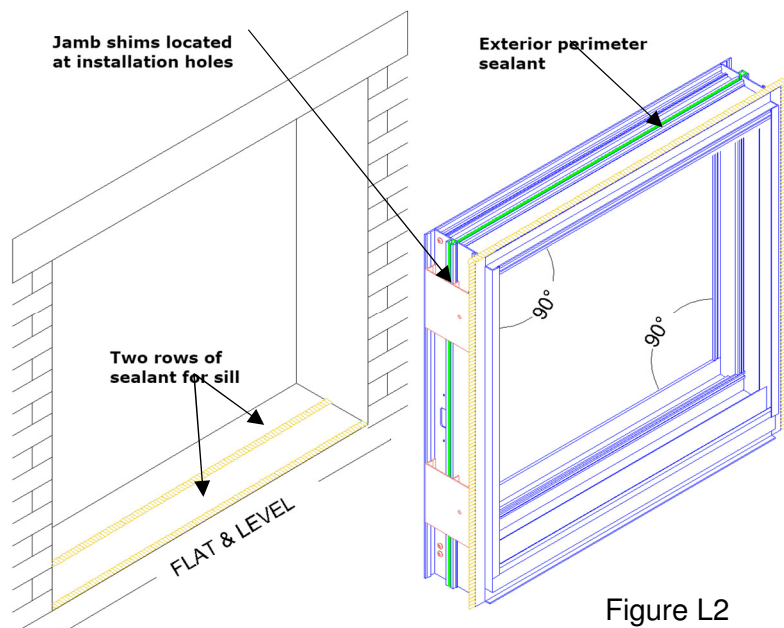

Figure L2
- A. Install the door in accordance with the shop drawings. It is recommended to use at least two rows of sealant at the sill. The sill sealant will need to connect continuously with the jamb seal (See Figure L2)
- F. Apply shims and/or blocking at each fastener location (See Figure L2). The door must be level, plumb and square in accordance with Table L1.